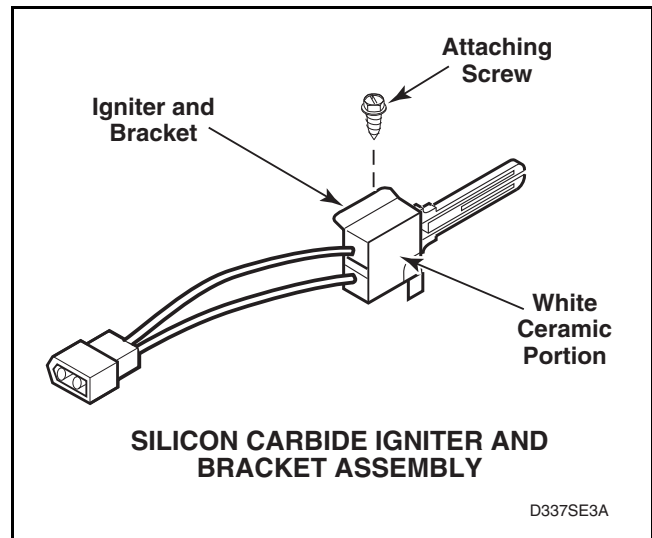

Figure 18
- f. **Silicon Carbide Igniter** – meter should read between 45 – 200 Ohms. Refer to *Figure 18*.